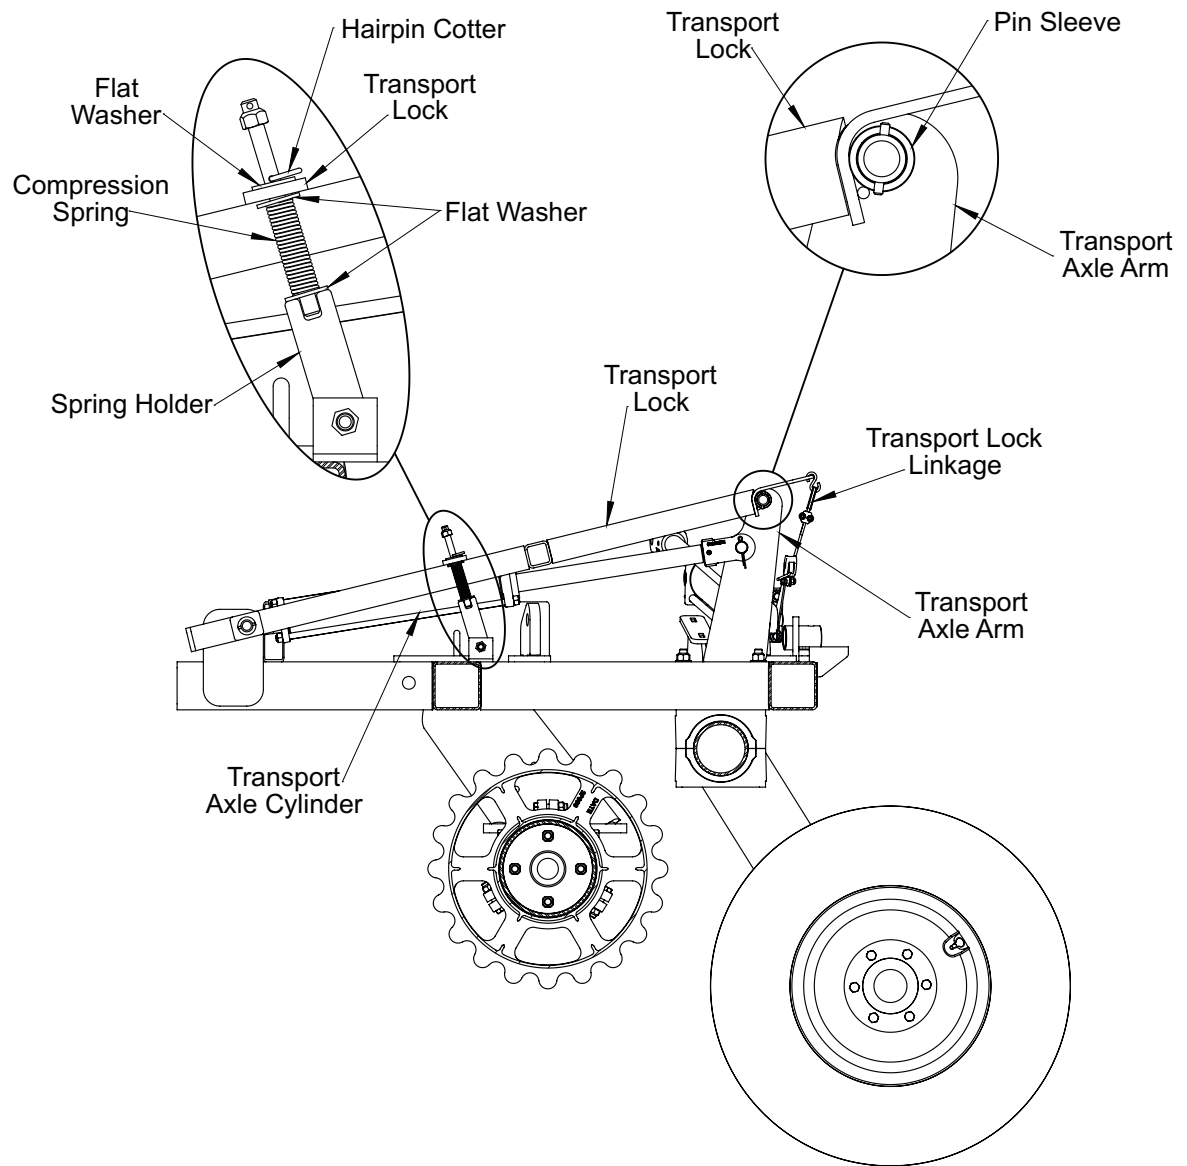

Figure 3-4: Transport Lock Locked Position
5. Fully extend the hydraulic lift cylinders, and retract the wing fold cylinders. Transport lock will engage when lift cylinder is extended. Secure transport lock with hairpin cotters. See **Figure 3-4**.
Be sure Transport Lock is either locked or unlocked. See Figures 3-4 and 3-5.